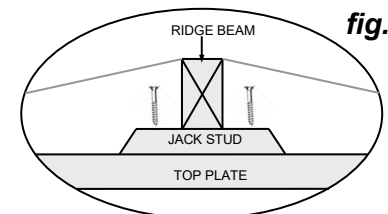

fig. 2
Use the 50mm Clouts only on ribs covered by flashings, shown on pg 13 fig.2 Pre-drill holes using a 3.5mm drill bit. Use Roofing Screws on all other ribs. Ensuring screws are not overtightened as this can damage the seals and cause the shed to leak.
- Secure with 2 x 75mm screws through the top of the Jack Studs into the Timber Top Plate (fig. 2).